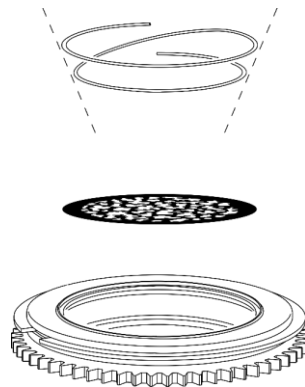

Fig. 17
- 11) Carefully insert the retainer spring with the narrow end against the gobo (see Fig. 17). To identify the narrow end, press the spring flat: the narrow end is on the inside.